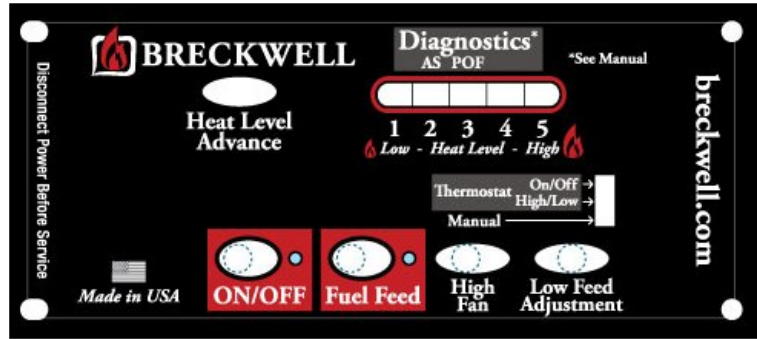

FIGURE 12
## PANEL CONTROLS (See Figure 12)
- The green light located above the On/Off button (in the On/Off box) will flash during the ignition start-up period. (See figure 12)
- While the stove's auger system is feeding pellets the green light (in the "Fuel Feed" box) will be on. (See figure 12)